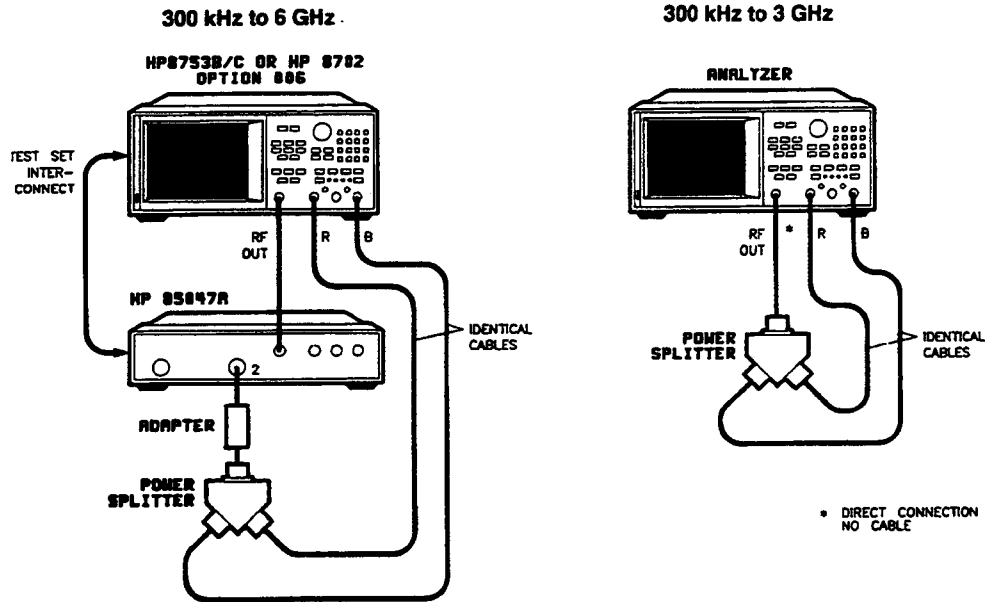

Figure 21. Input B Sampler Correction Constant Setup
20. When prompted, move the cable from input A to B as shown in Figure 21.